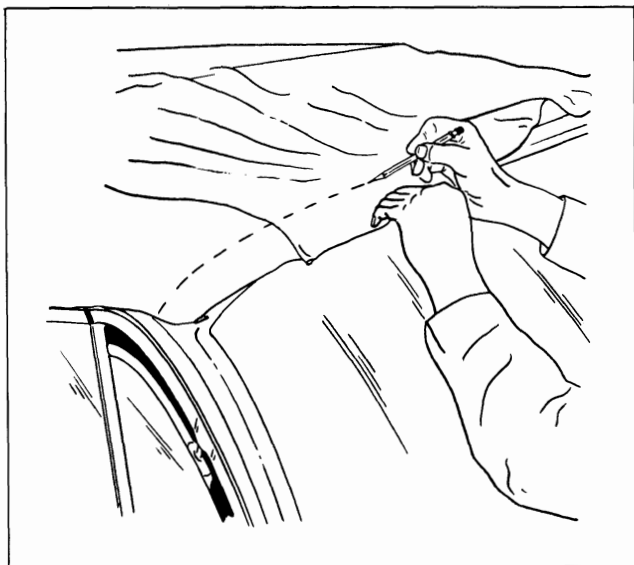

Fig. 21-34 Working Top Material
48. At front roof rail, pull top trim material forward to desired tension. While maintaining tension on top trim, place a pencil mark on outer surface of trim material along forward edge of front roof rail (Fig. 21-34).